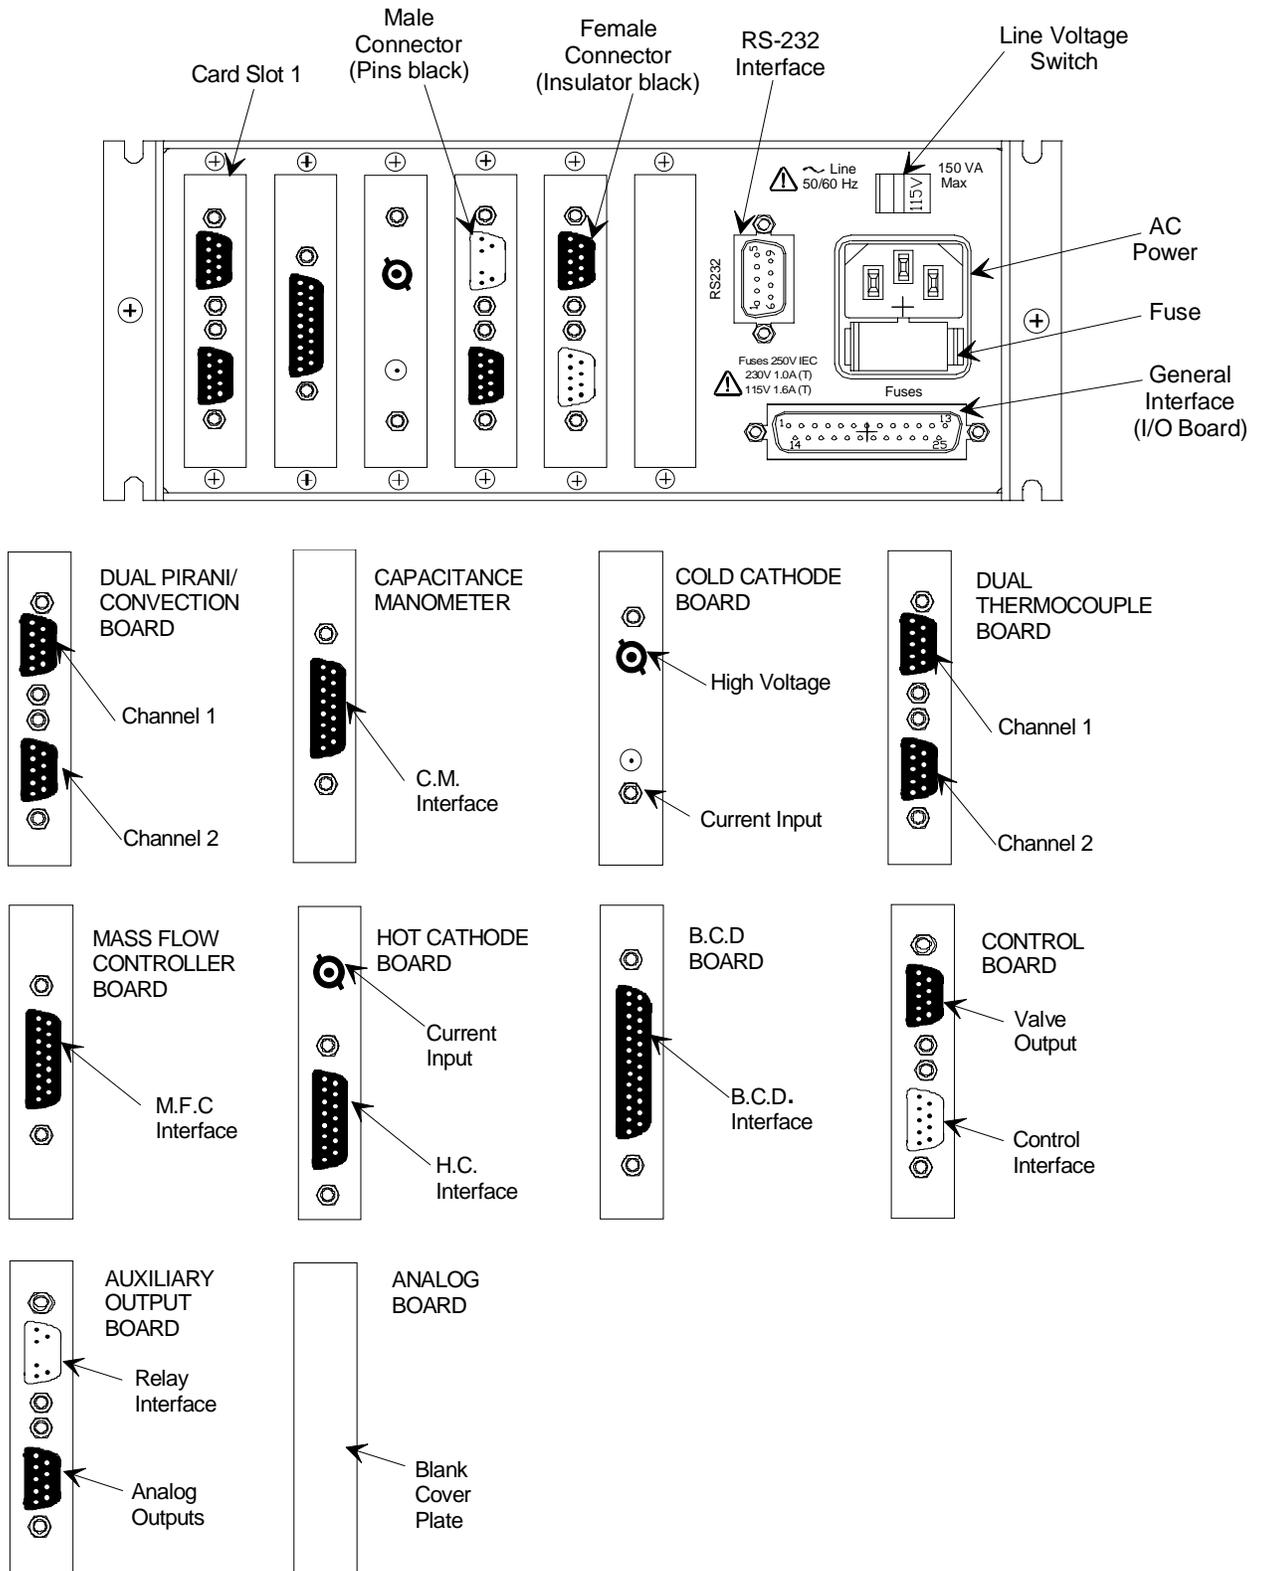
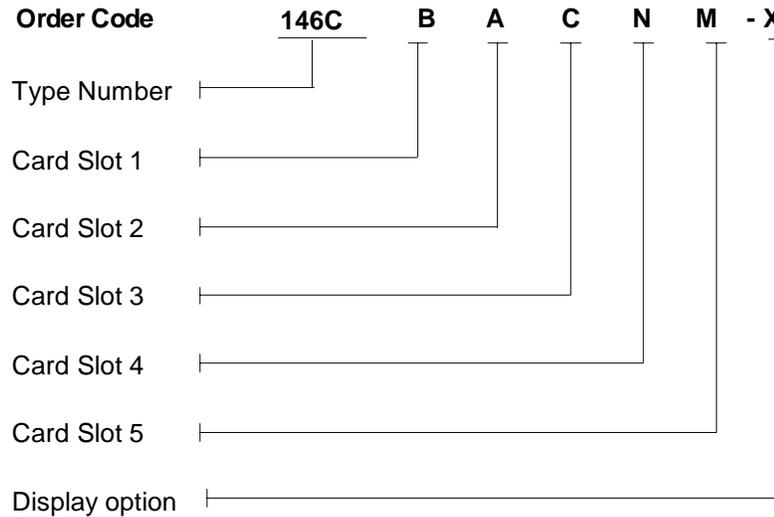

Figure 4: Rear Panel of the 146 Unit
Figure 5: Model Code
All or some of the following boards may have been ordered with your basic 146 unit. Examine the rear panel of the 146 unit to make sure your unit conforms to your order code. Refer to Figure 4, page 27, to see how to identify these boards by their connectors on the rear panel. Also, refer to the explanation of an order form code in Figure 5, page 28. The boards should be placed within the 146 unit in the same order as they are listed on your order form.
- Connect the gauge/MFC interface cable to the appropriate 146 connector. Refer to Figure 4, page 27, to identify the appropriate connector.
Refer to Figure 4, page 27, for the location of all communication and power connections.